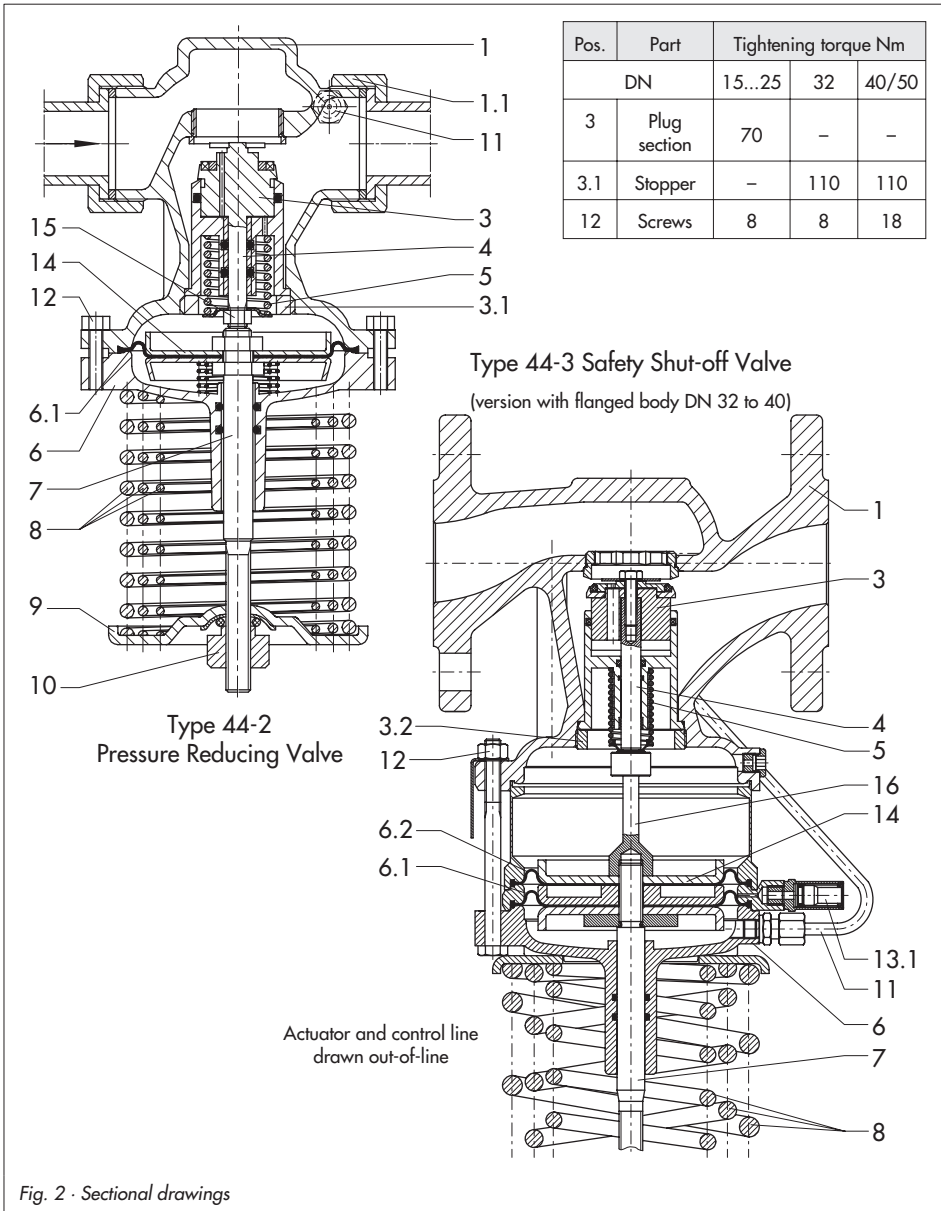

Fig. 2 · Sectional drawings
4. Check the seat ring (2) for damage and, if necessary, unscrew it and replace it with a new one.
5. For reassembly, proceed in reverse order, observing the tightening torques specified in the table in Fig. 2.
6. For reassembly, proceed in reverse order, observing the tightening torques specified in the table in Fig. 2.